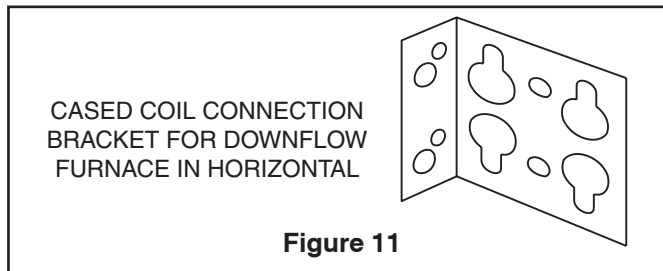

Figure 11
- d. There are three brackets included with the non-condensing downflow furnace which are used to connect the furnace and coil together. See Figure 11.